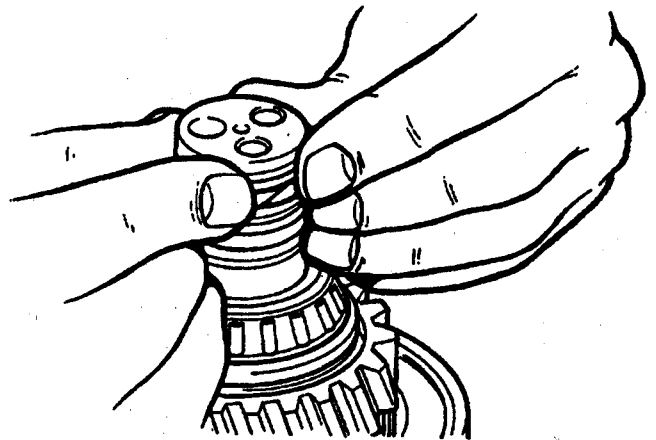

Figure 53.
2. Coat the seal with grease and install the seal to the shaft (Figure 53).